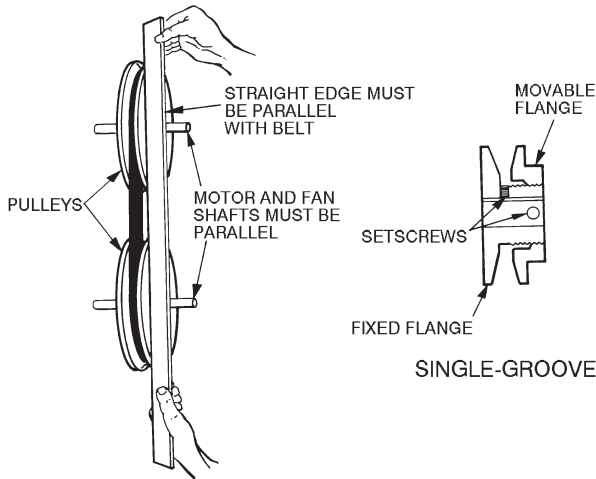

Fig. 32 - Evaporator-Fan Alignment and Adjustment
3. Loosen movable-pulley flange setscrew. (See Fig. 32.)